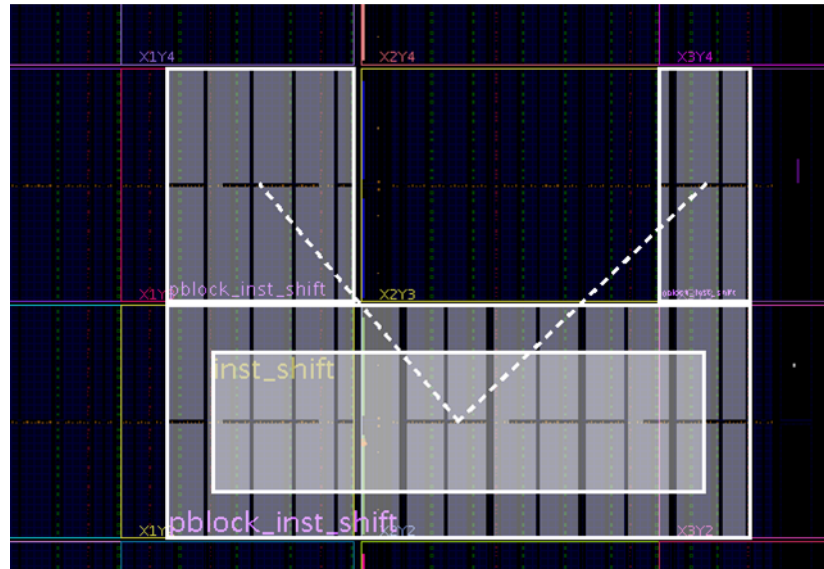

Figure 7-5: **Unsupported Pblock with clock_region Gap**
4. Do not create U or H shaped Pblocks with large gaps that span an entire `clock_region`, as shown in Figure 7-5 below.